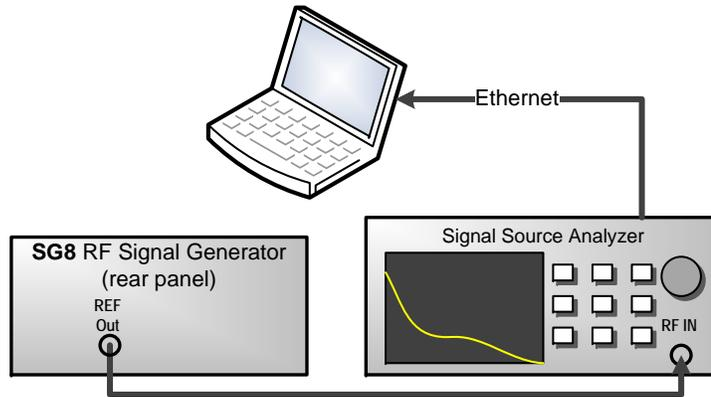

Figure 9: REF Out phase noise
1. Connect the instruments as shown in figure 9.